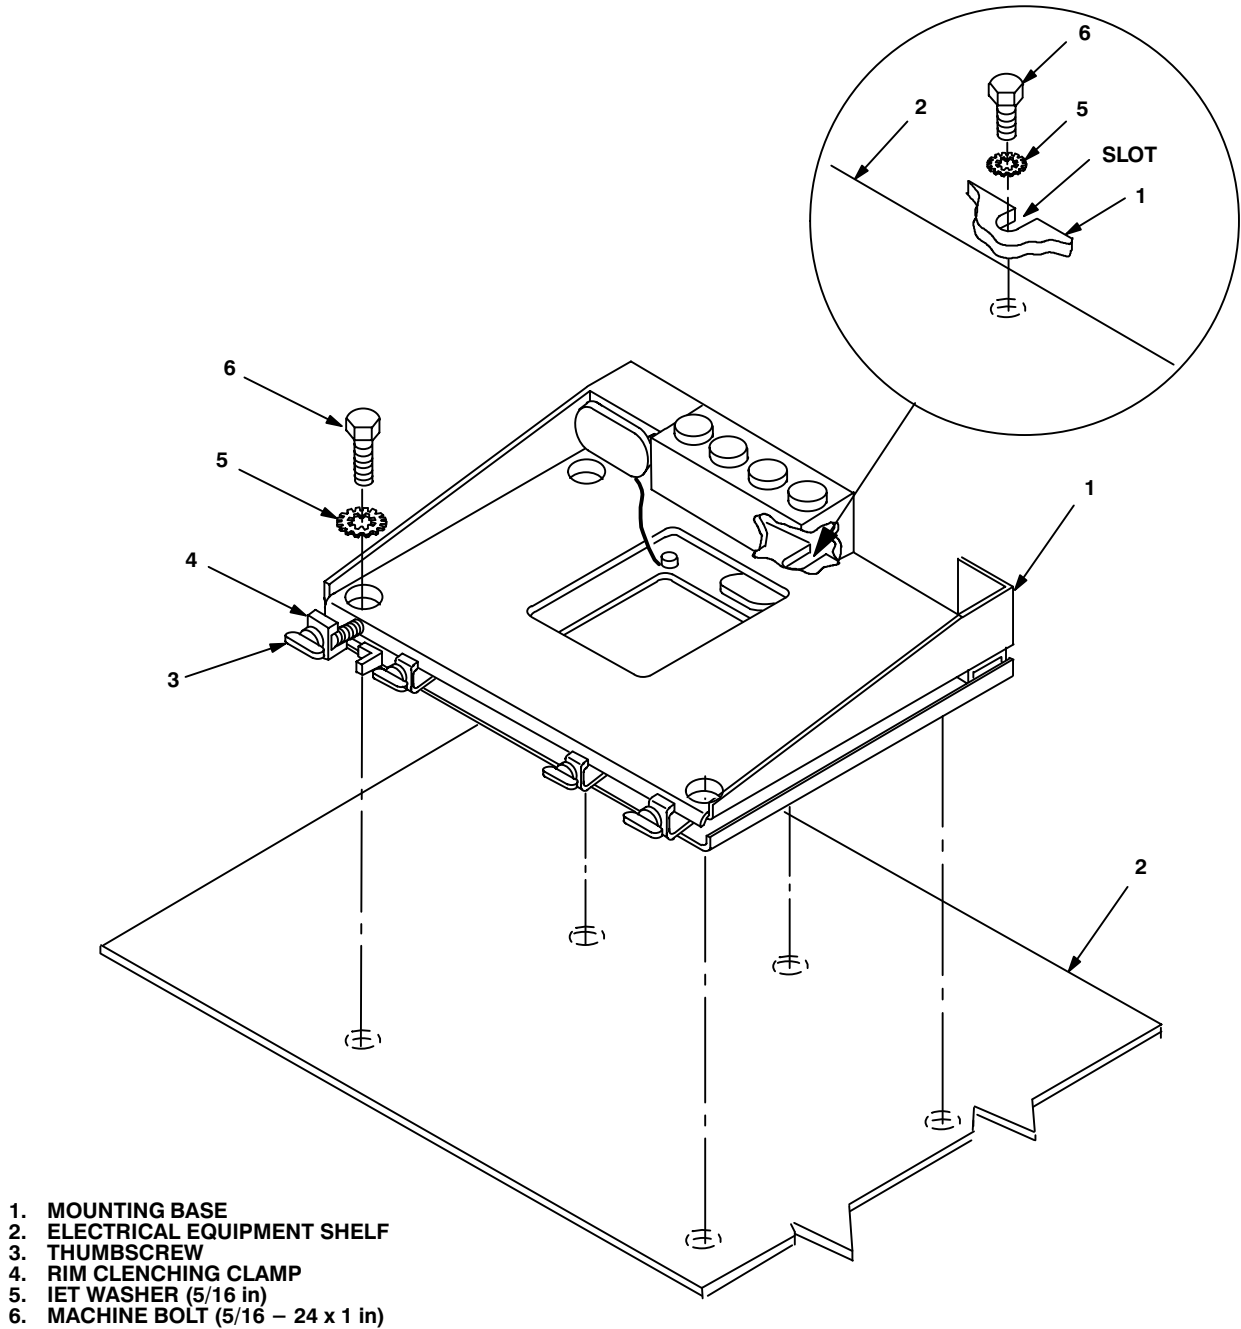

Figure 5-6. Mounting Base Installation
5.4 Installation of Mounting Base, Electrical Equipment MT-6352/VRC (mounting base). Remove and retain attaching bag of 5/16 in mounting hardware for installation. To insure good electrical grounding, any rust, corrosion or paint around mounting holes in electrical equipment shelf should be removed before installing the mounting base. See figure 5-6 and perform the following steps.
a. Mounting base (1) and electrical equipment shelf (2).	Remove a 2" square area of paint on the underside of the mounting base (1) around left front and rear mounting holes. Remove a 2" square area of paint on the electrical equipment shelf around the existing mounting holes that mate with left front and rear mounting holes of mounting base (1). Clean the paint removed areas and apply a thin coat of conductive anti-seize compound.	Tools: Electric grinde or equivalent.
b. Mounting base (1).	Place on radio shelf over existing holes. See Figure 5-6.
c. Two outer thumbscrews (3).	Turn ccw until both sets of threads have cleared center of holes. See Figure 5-6.
d. Mounting base (1).	Align four holes and rear slot with matching hole pattern in shelf (2).
e. Five machine bolts (6) and five IET washers (5).	Install and secure to mounting base (1) and shelf.	Tools: 1/2 in socket.
f. Two outer thumbscrews (3).	Tighten and secure to rim clenching clamps (4) and mounting base (1).